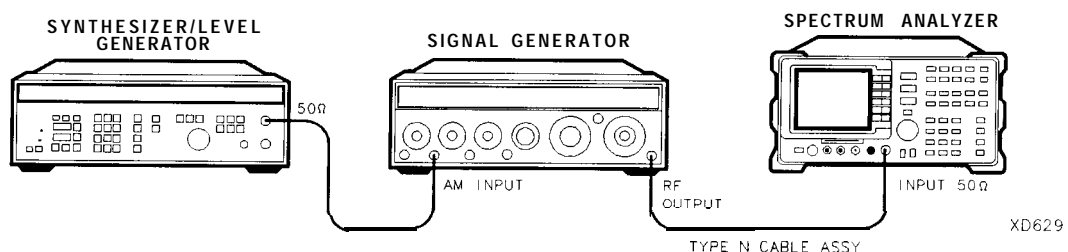

Figure 2-86. Fast Sweep Time Accuracy Test Setup
4. Connect the equipment as shown in Figure 2-86.